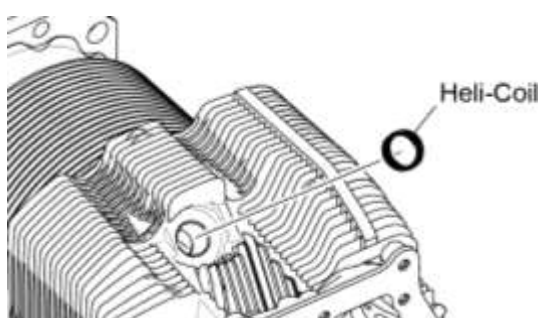

Figure 56
- A. Replace the spark plug Heli-Coil® insert (Figure 56) in the cylinder head if the threads in the spark plug hole in the cylinder are damaged (usually occurs when hard carbon on the end of the spark plug causes the insert to unwind during spark plug removal).